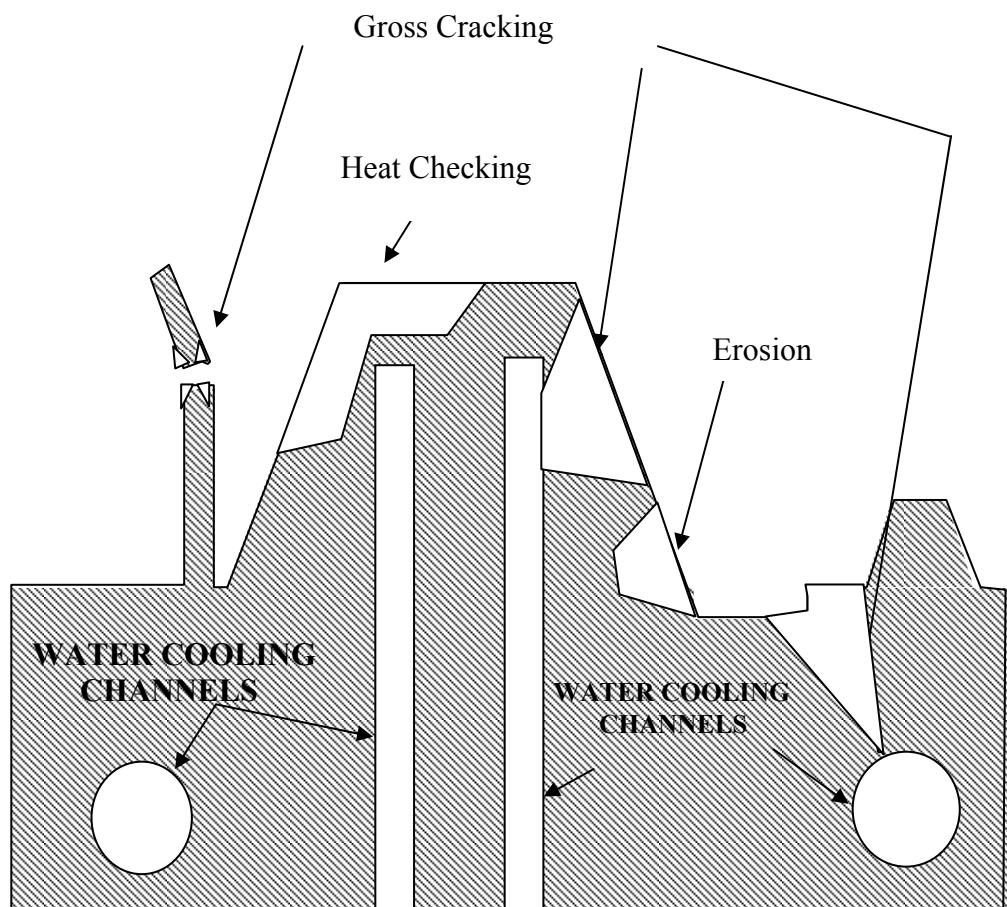

Figure 3. Schematic representation of weld surface preparation for each die failure area
1. Machine or grind all damaged die areas which require welding, see figure 3.